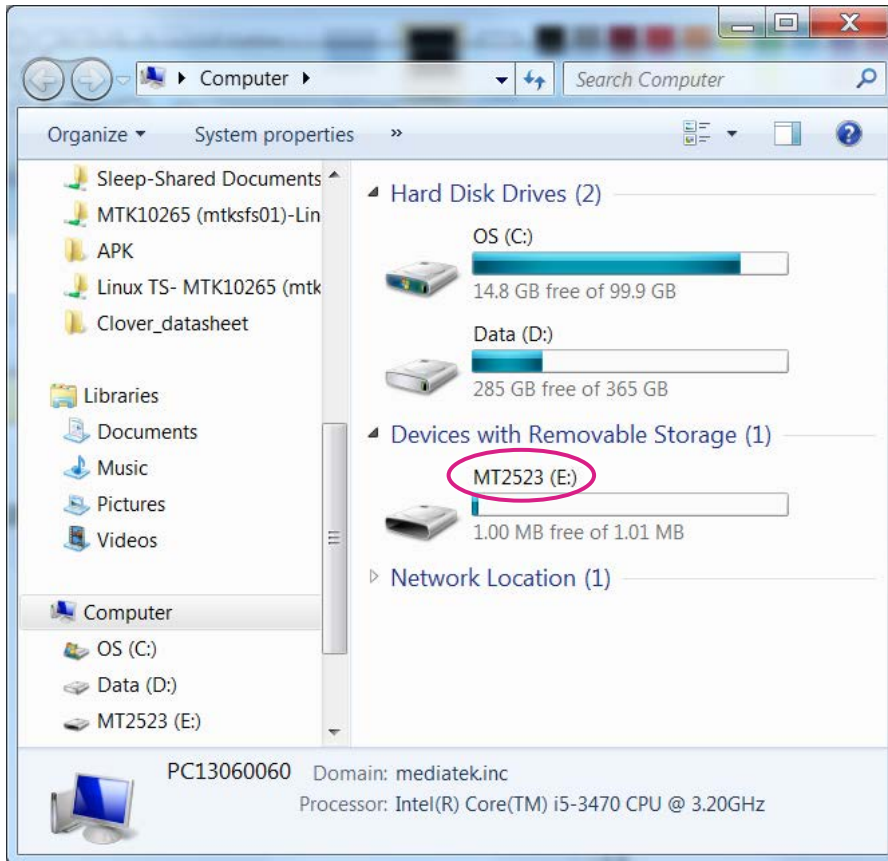

Figure 7. LinkIt 2523 HDK connected as removable disk storage
- 2) Navigate to **Computer** on your PC to check if a new mass storage named **MT2523** is available under **Devices with Removable Storage**, as shown in Figure 7.